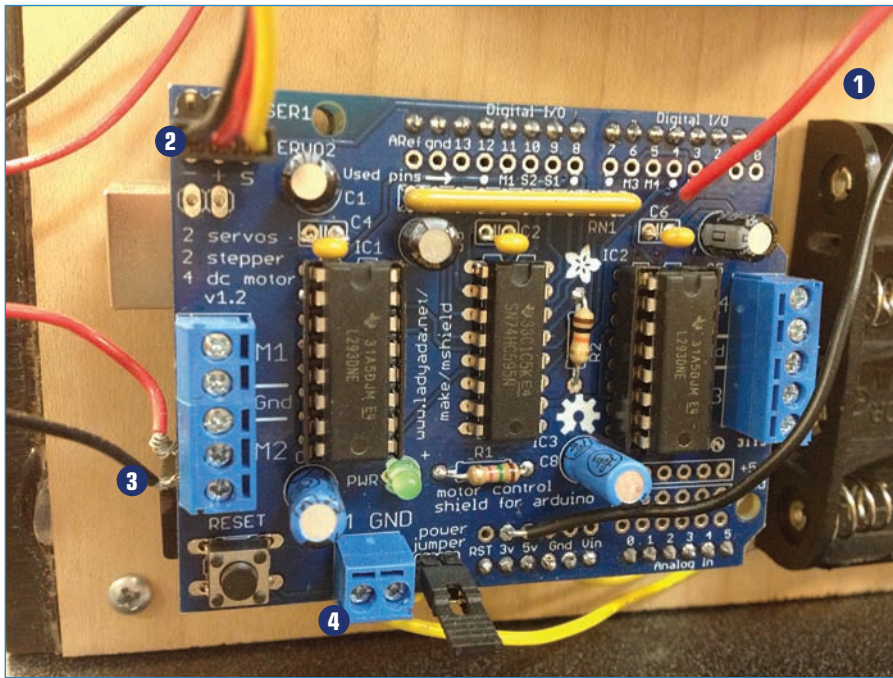

FIGURE 13.17 The motor shield controls your BubbleBot.
Attach the Arduino to the back panel using the 1" #4 screws, and then mount the Adafruit motor shield to the Arduino by inserting the pins of the shield into the Arduino's headers. Wire up the shield, following along with Figure 13.17.
9. Hot glue the 9V battery pack (not shown in Figure 13.17) to the chassis and connect the plug to the Arduino's power plug. This will power the Arduino.